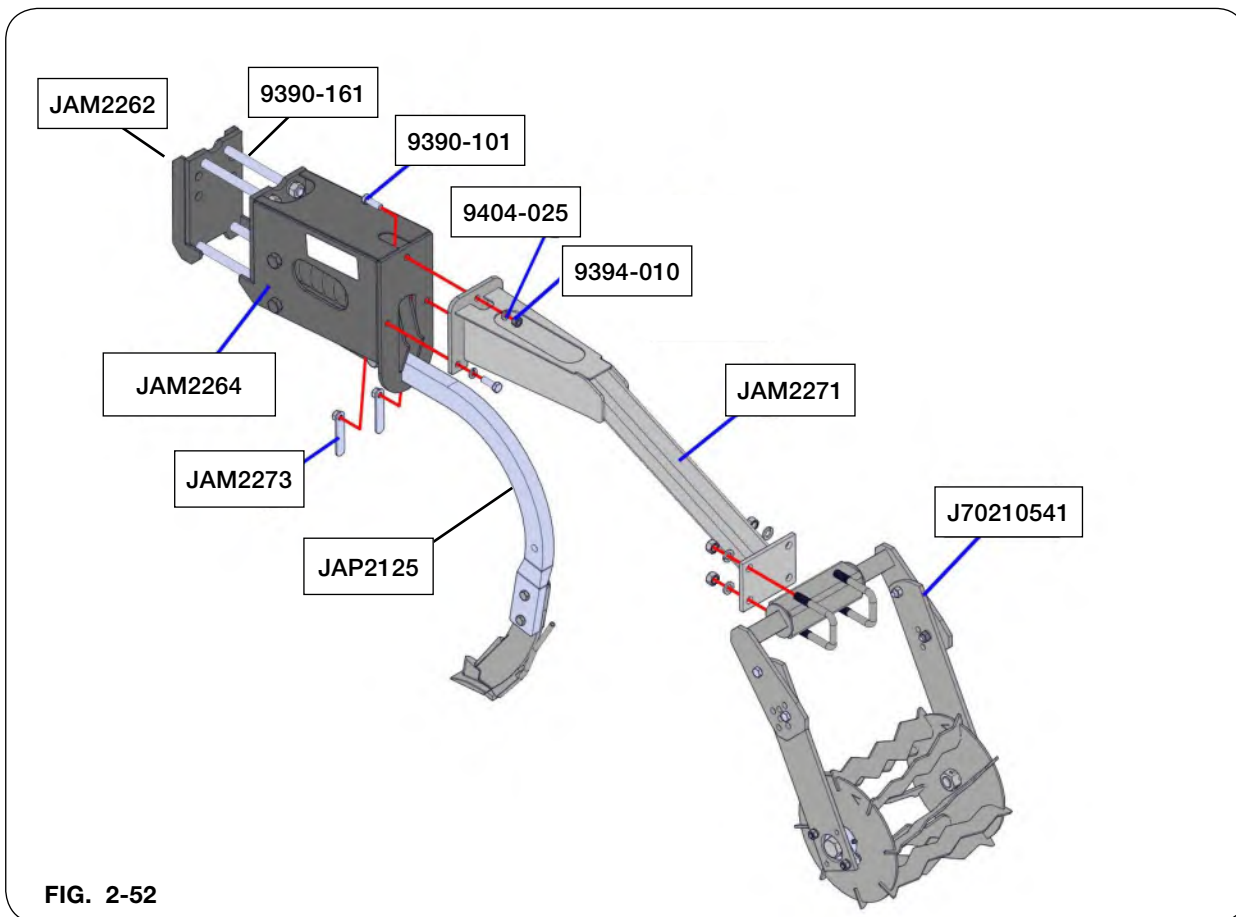

FIG. 2-52
1. Using a safe lifting device rated at a minimum of 150 lbs., secure MaxPac row unit (JAM2264) with 1 1/4" x 2" EdgeBent shank (JAP2125) with backing plate (JAM2262), 3/4"-10UNC x 8" capscrews (9390-161) 3/4" lock washers (9404-033), and 3/4"-10UNC hex nuts (9394-016). (FIG. 2-52)
2. Using a safe lifting device rated at a minimum of 100 lbs., secure MaxPac basket mount weldment (JAM2271) and torsion arm assembly (J70210641) to the MaxPac row unit (JAM2264) with two nut plate weldments (JAM2273), one 1/2"-13UNC hex nut (9394-010), three 1/2" lock washers (9404-025), and three 1/2"-13UNC x 1 1/2" capscrews (9390-101). (FIG. 2-52)